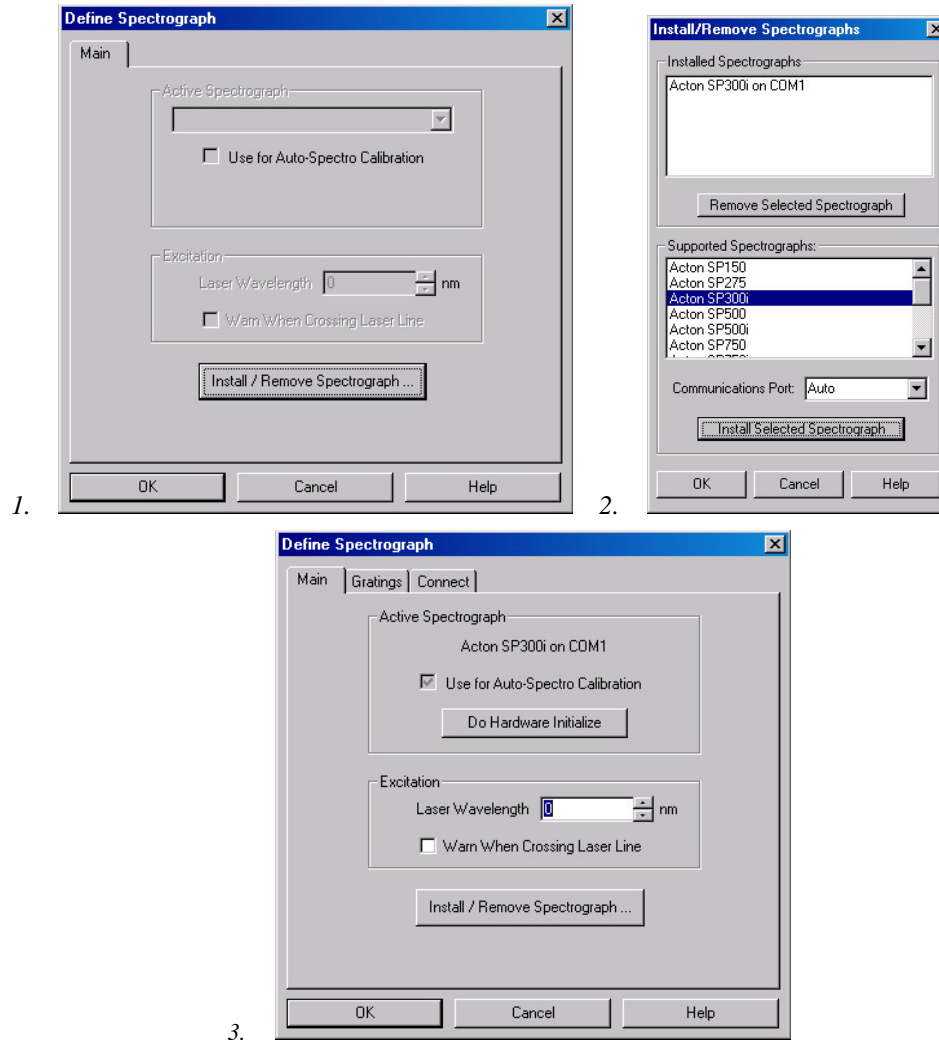

Figure 44. Define Spectrograph and Install/Remove Spectrographs dialogs
3. If you have a spectrograph, set the spectrograph properties by using the menu items on the "Spectrograph" menu (WinSpec/32 only). If the spectrograph you will be using has not been installed, first click on "Install/Remove Spectrograph" and do so before setting the properties. Figure 44 shows the WinSpec/32 sequence for an Action 300I spectrograph.